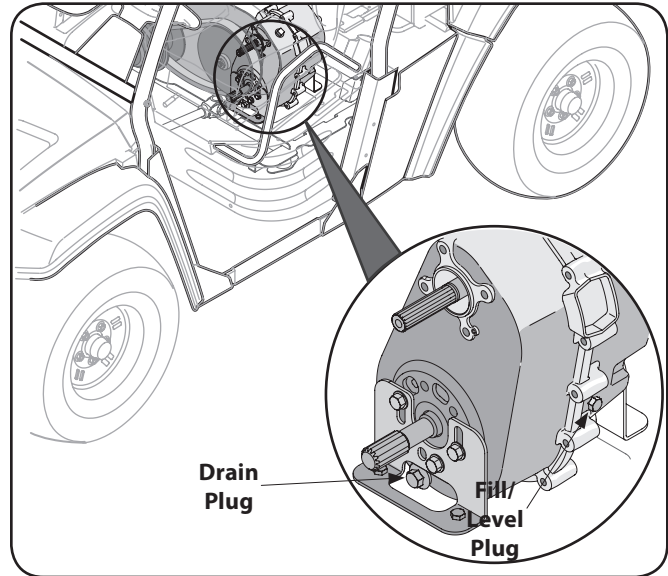

Figure 5-1
4. Access drain plug through slot on underside of machine and remove plug. See Fig. 5-1.